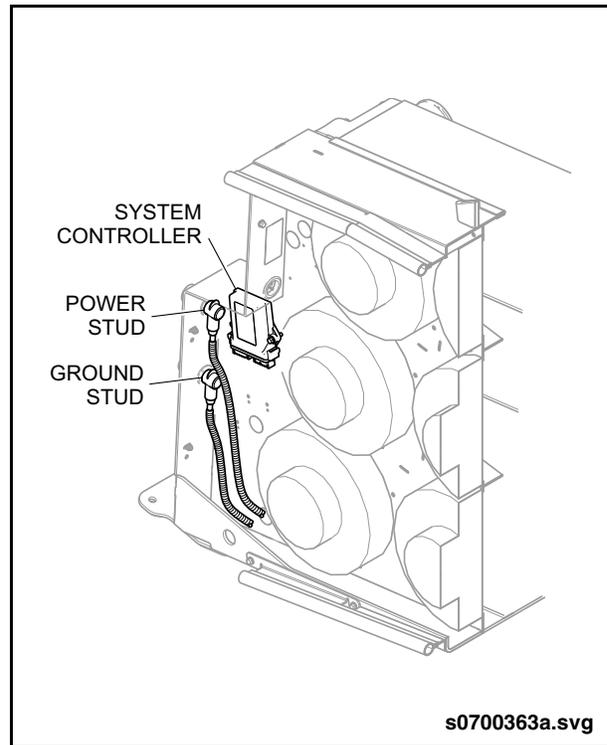

Fig. 1: Radiator Inspection
1. Locate the power and ground studs on the radiator and pull boots back from pass-through stud. See “Fig. 1: Radiator Inspection” on page 4.